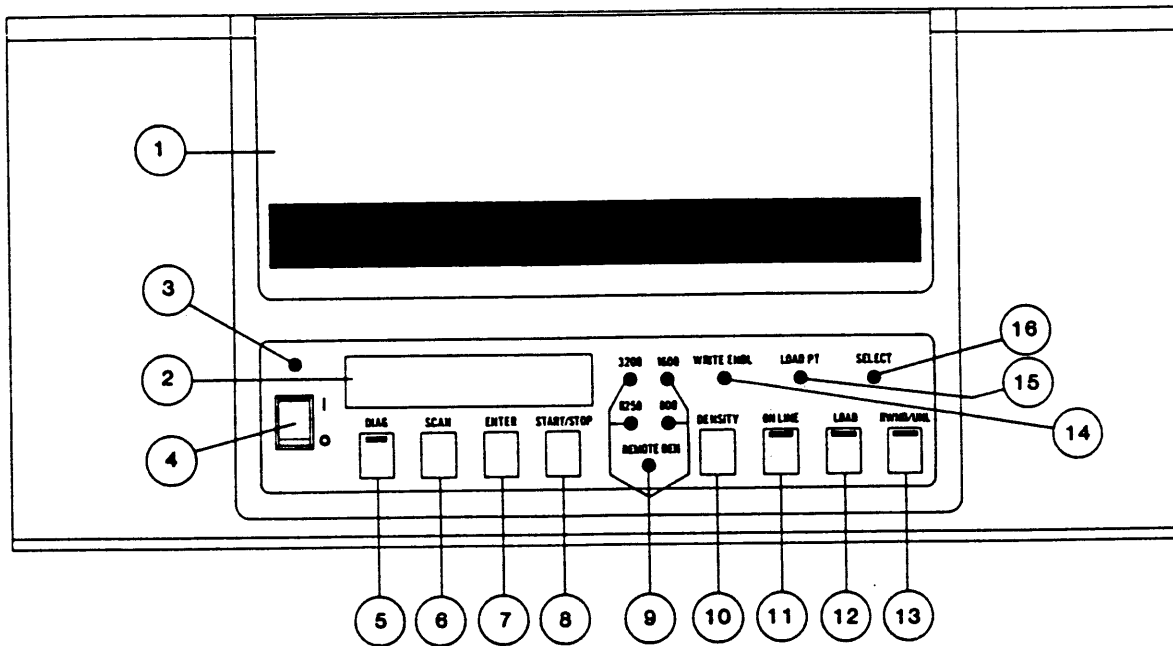

Figure 2-10. Panel Controls and Indicators
- B. Turn Power ON-OFF switch ON (Figure 2-10).